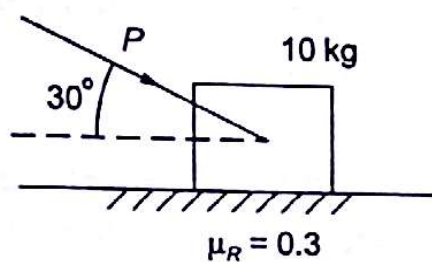

Fig. 14.24
14.2 A 10 kg block rests on a horizontal plane as shown in Fig. 14.24. Find magnitude of force P to give the block an acceleration of 2 m/s^2 . Coefficient of kinetic friction between block and plane is $\mu_R = 0.3$